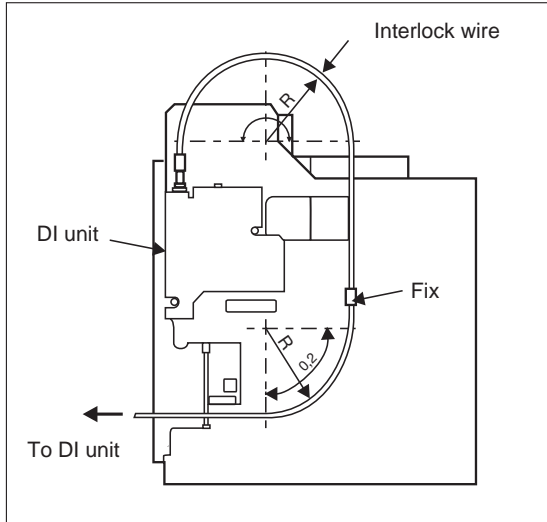

Fig. 4-63:
- ① Fix the interlock wires (see fig. 4-63).